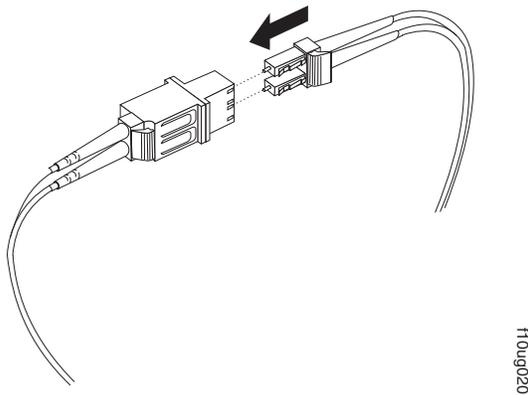

Figure 31. Connecting an LC-LC cable into the LC-SC cable adapter
4. Carefully insert the other end of the LC-LC cable into the LC connector end of the LC-SC cable adapter as shown in Figure 31. Push in the connector until it clicks into place.